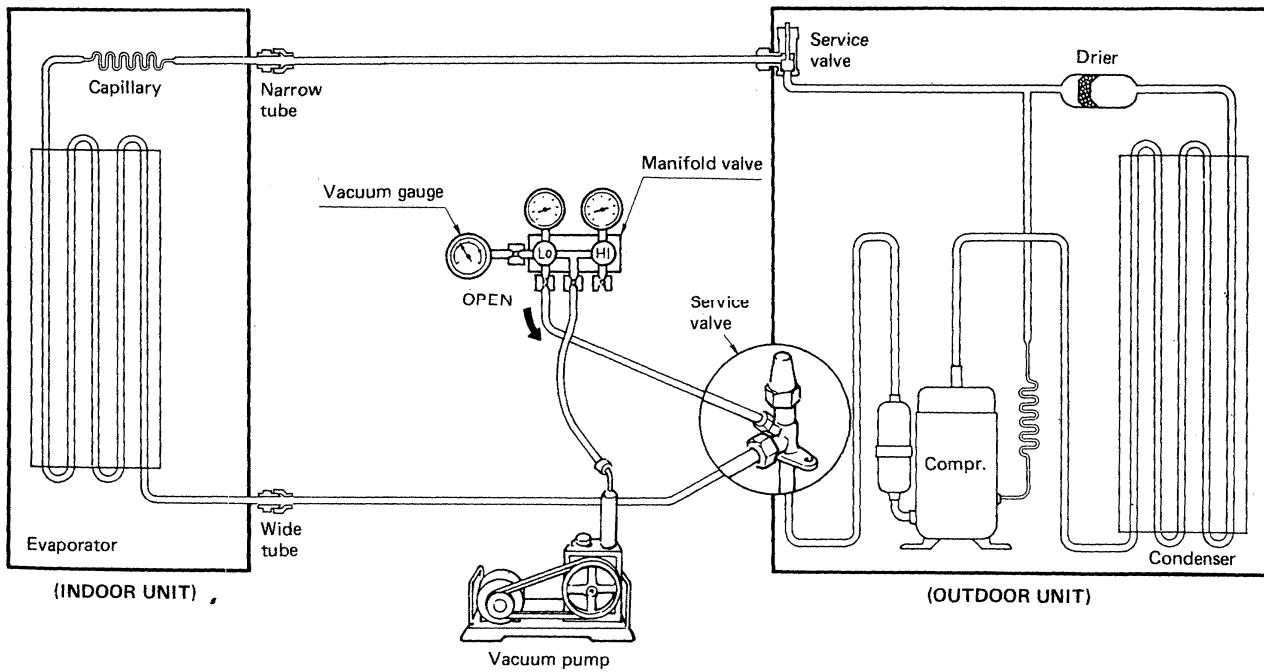

Fig. 32
- b) If no gas leakage is confirmed, connect both vacuum pump and vacuum gauge to service valve through 1/4" port with a flare nut. Fig. 32